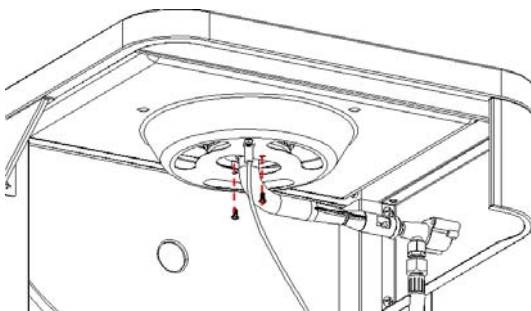

Fig. 15G
Attach the Side Burner to the Side Burner Shelf Assembly using (2) bolts removed from Step 14B as shown as Fig. 15G.